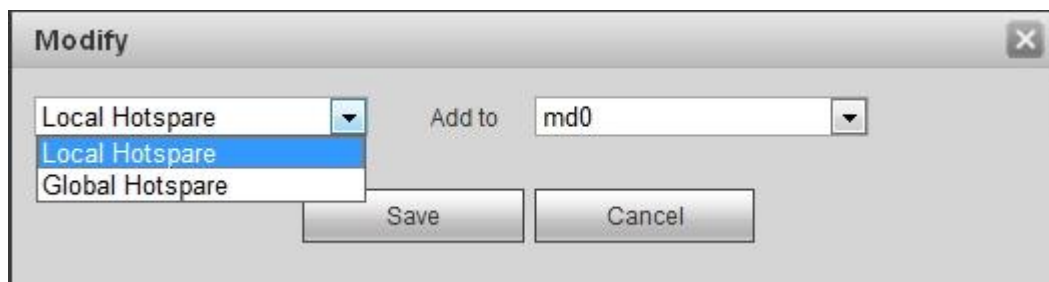

Figure 5-129
Step 2 Click to set corresponding disk to the hotspare disk. See Figure 5-129.